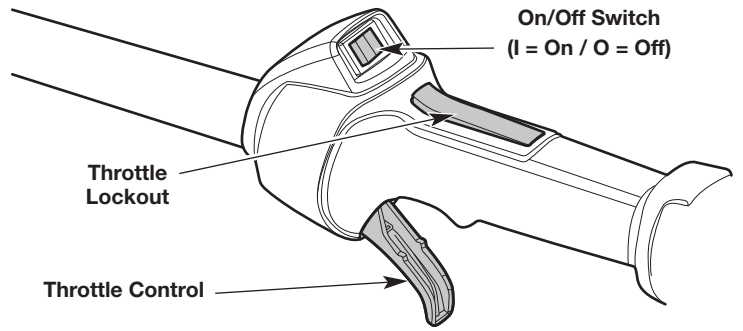

Fig. 14
NOTE: There is no need to turn the unit on. The On/Off switch is in the **On (I)** position at all times (Fig. 14).
NOTE: **DO NOT** squeeze the throttle control until step 8 (Fig. 14).
8. Press and hold the throttle lockout (Fig. 14). Squeeze the throttle control as needed for operation (Fig. 14).
2. Press and hold the On/Off switch in the **Off (O)** position until the engine comes to a complete stop (Fig. 14).
NOTE: DO NOT squeeze the throttle control until step 8 (Fig. 14).
10. Press and hold the throttle lockout (Fig. 14). Squeeze the throttle control as needed for operation (Fig. 14).